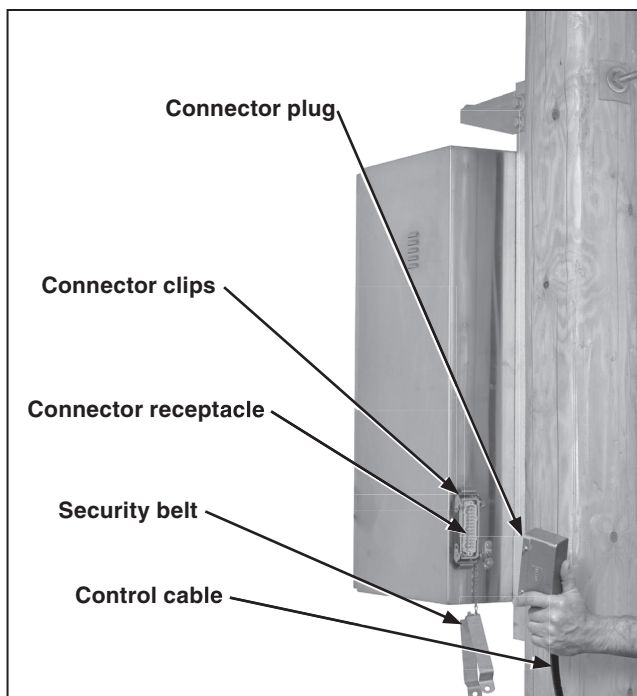
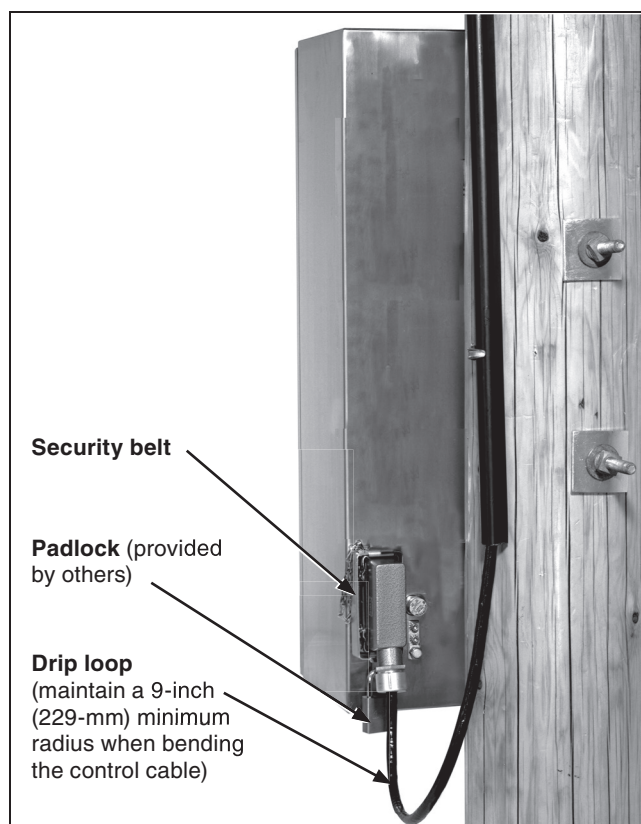

Figure 12. Connecting the control cable to the control unit enclosure.
Figure 13. Connecting the control cable to the control unit enclosure.
- (c) Retain the dust cover for future use. See Figure 12.
- (c) Form a coil with any excess control cable, maintaining a 9-inch (229 mm) minimum radius, and secure it to the utility pole. See Figure 13.
STEP 19. A stainless steel security belt is included with the control unit for padlocking the multi-pin connector to the control unit. See Figure 12 on page 14. Place the security belt around the connector between the connector clips and the enclosure, and insert a padlock (not furnished) through the holes provided. See Figure 13.